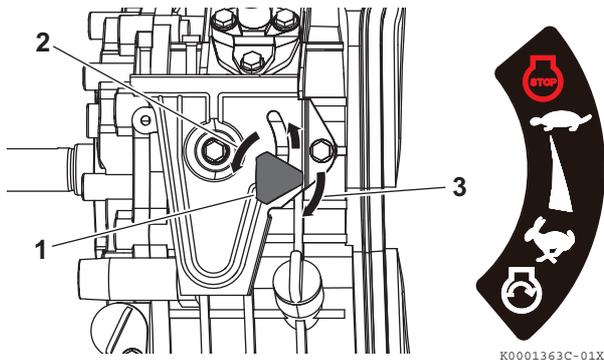

Figure 17
3. If your engine speed control is similar to **Figure 17**:
- (a) Turn the engine speed control knob (**Figure 17, (1)**) to the left (**Figure 17, (2)**).
- (c) Turn the engine speed control knob to the right (**Figure 17, (3)**) to tighten it.